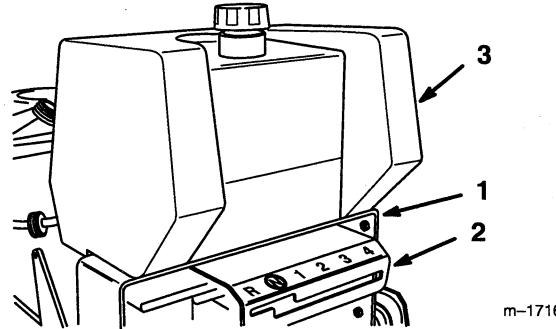

**Figure 1**
1. Align mounting block with flats of shaft on top of transmission and slide onto shaft (Fig. 1).